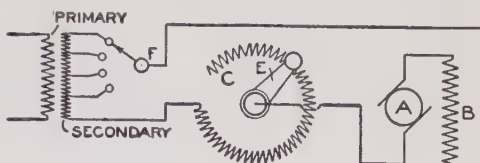

Fig. 2
F., as shown in Fig. 2. The switch gives a means of varying the voltage and the rheostat takes care of the desired changes in speed occurring between those produced by the variations in voltage.